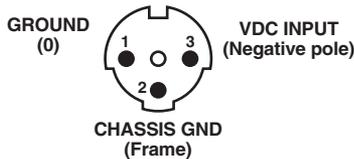
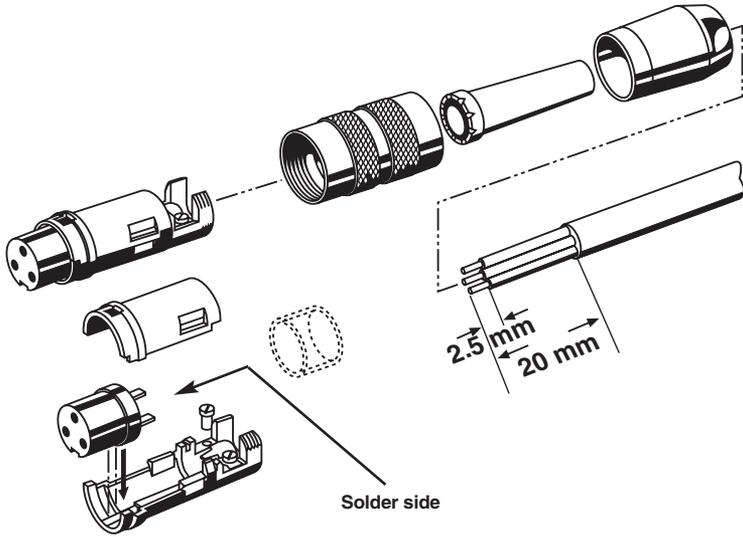

Figure 3-8. Cord connector (female) voltage polarity (solder side shown).
Figure 3-9. Cord-connector assembly.
- If not, terminate the wires of your power-supply cord with the FOLD's connector kit, being careful to match the voltage polarity shown in Figure 3-8. Note that the solder side of the connector is shown in those illustrations. Figure 3-9 shows how everything should fit together.